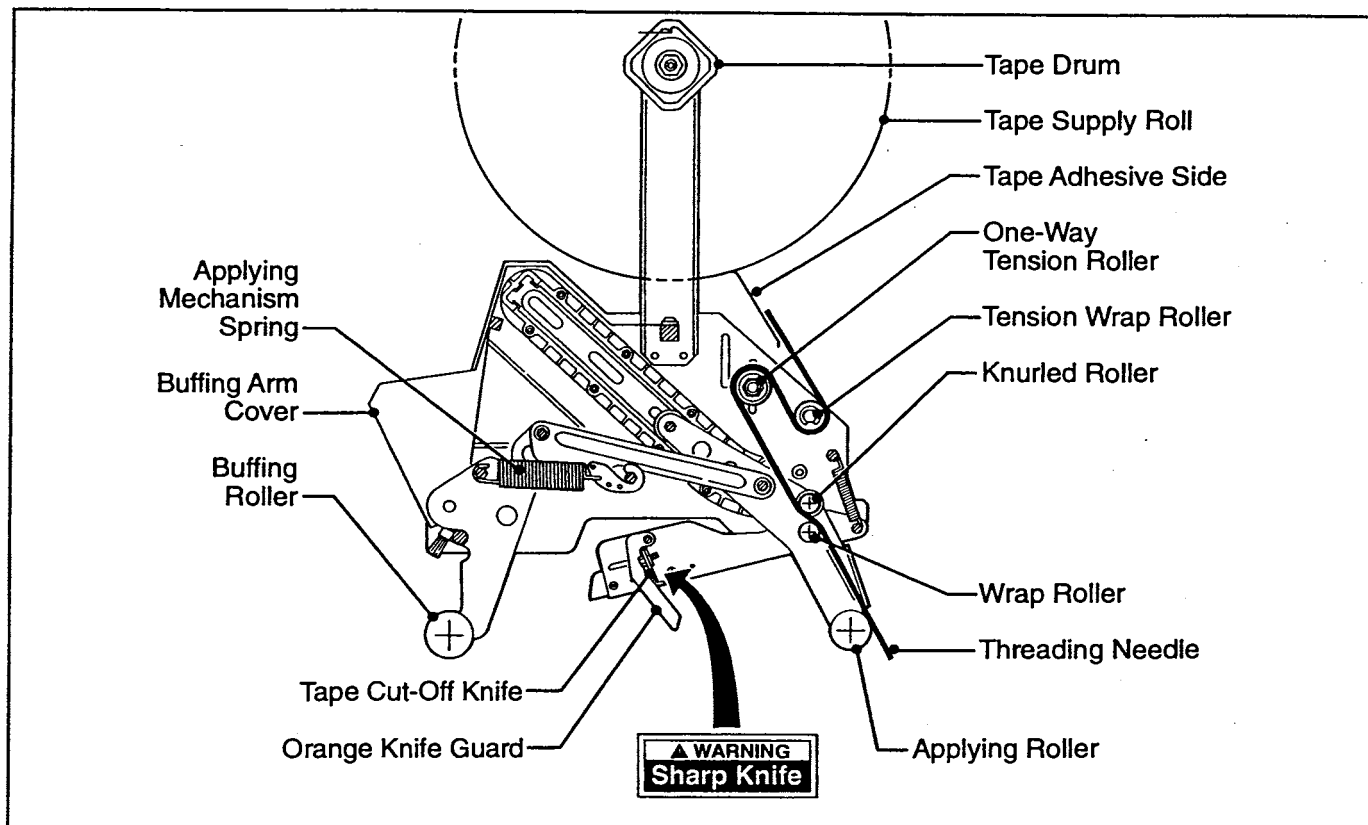

Figure 3-1 – Taping Head Components/Threading Diagram, Upper Head (Left Side View)
Before working with the taping heads or loading/threading tape, refer to Figures 3-1 and 3-2 (page 6) to identify the knife location. **Keep hands out of these areas except as necessary to service the taping heads or to load/thread tape.**
**WARNING** – Taping heads are equipped with an extremely sharp tape cut-off knife. The knife is located under the orange knife guard which has the "Warning – Sharp Knife" label. Before working with the taping heads or loading tape, refer to Figures 3-1 and 3-2 on page 6 and identify the knife location. Keep hands out of these areas except as necessary to service the taping heads.
3. The taping heads are equipped with an extremely sharp cut-off knife. Before working with the taping heads or attempting to load/thread tape, refer to Figures 3-1 and 3-2 and identify the knife location. Keep hands out of these areas except as necessary to service the taping heads.
The applying mechanism spring, shown in Figures 3-1 and 3-2, controls applying and buffing roller pressure on the box and returns the mechanism to the reset position. The spring pressure is pre-set, as shown in Figure 5-3A for normal operation, but is adjustable.